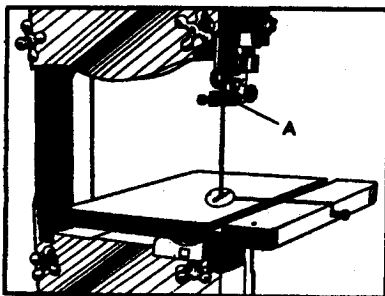

Fig.20
The upper blade guide assembly should also be adjusted so that the blade guides (A) Fig. 20, are flat with the blade.